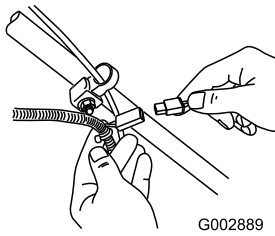

Figure 24
1. Connect the charger to the mower wire harness located below the ignition key (Figure 24).